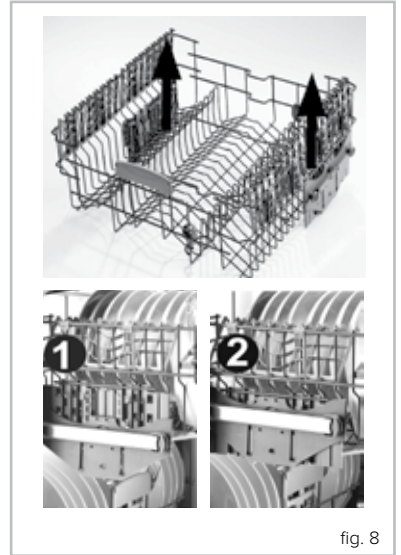

fig. 8
1. Take hold of the basket handles, as shown in fig. 8.